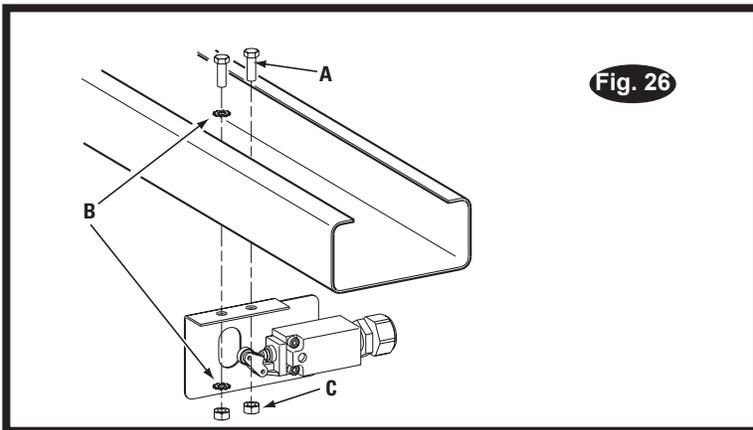

Fig. 26 Detail
2. Mount Overhead switch assembly towards power unit column using (2) M6*20, HHCS, M6 Nuts and 6mm Star Washers, Fig. 26.